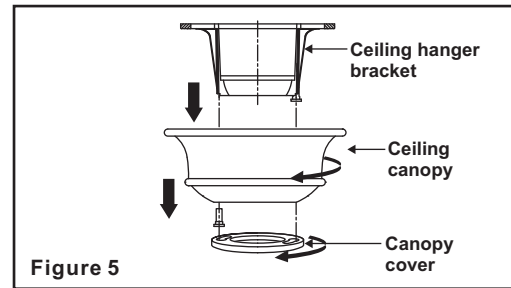

Figure 5
Step 1. Remove the decorative canopy bottom cover from the canopy by turning the cover counter clockwise.(Fig. 5)
Step 2. Remove the mounting bracket from the canopy by removing the 1 of 2 screws from the bottom of the mounting bracket and loosening the other one a half turn from the screw head. Next, turn the canopy counter clockwise to removing the mounting bracket from the canopy. (Fig. 5)